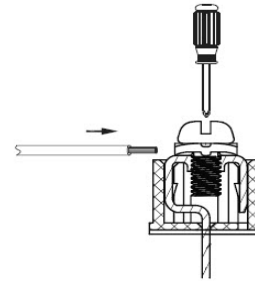

Fig. 62 —Connecting Communication Wire To Outdoor Unit Communication Terminal
3. Use a screwdriver to secure the communication wire on the outdoor unit communication terminal as shown in Fig. 62.